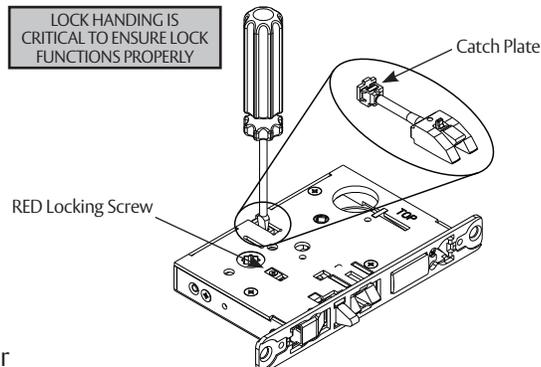

Figure 2
2. Push in latch. Depress catch plate with screwdriver. (Figure 2)